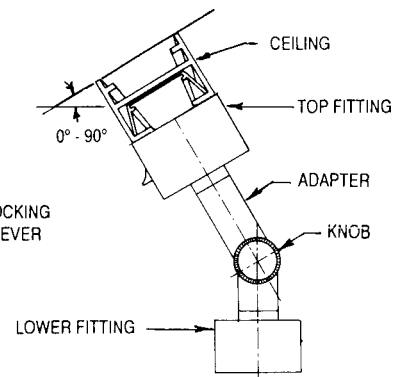

FIG. 4
3. Loosen KNOB and set the lower half of the ADAPTER to a vertical position and tighten KNOB. (Fig. 4)